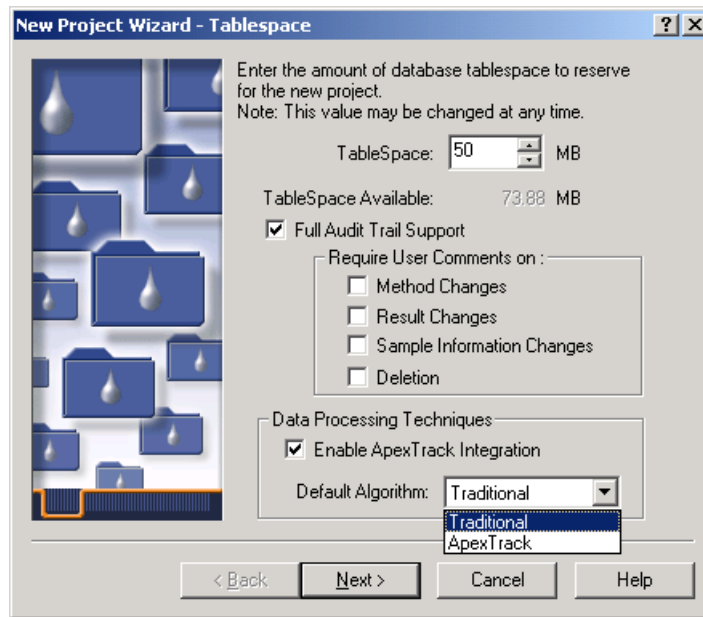

Figure C-4 Tablespace Page of New Project Wizard
2. Select **File > New > Project** or click  (New Project Wizard). The Tablespace page of the New Project Wizard appears (Figure C-4).